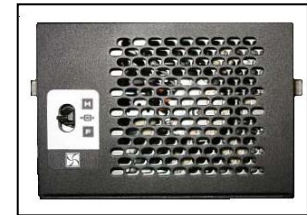

Figure 3.3.5
3.3.18 CAB HEATER – Figure 3.3.5